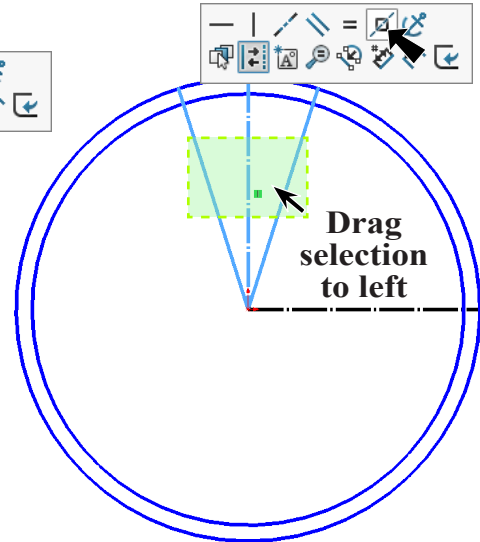

Fig. 5
**Make Symmetric** on the context toolbar, **Fig. 5**.